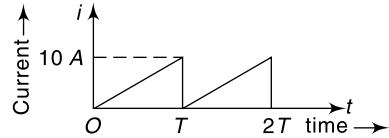

Fig. 5.61 Circuit diagram for Ex. 5.86
5.86 Find the average and rms value of the waveform shown in Fig. 5.61.